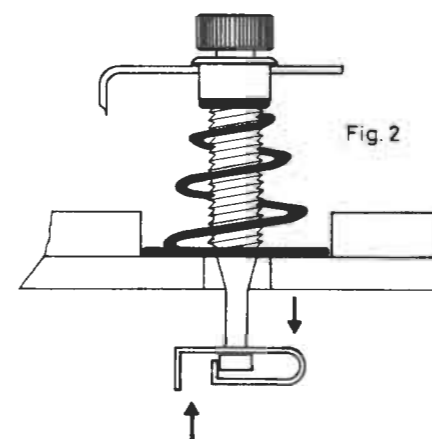

Fig. 2
2. To take out the gramophone section, turn the four spires on the transit screws in the direction of the arrow as shown in Figs. 2 and 3. The gramophone power flex is connected to the block under the motor.